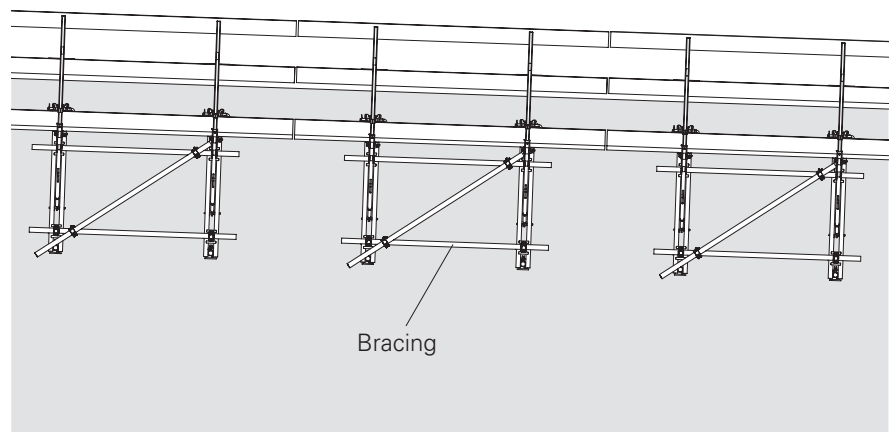

Fig. A8.03
- For longitudinal inclination $s < 3\%$, diagonal bracing and horizontal bracing must be installed. (Fig. A8.03)